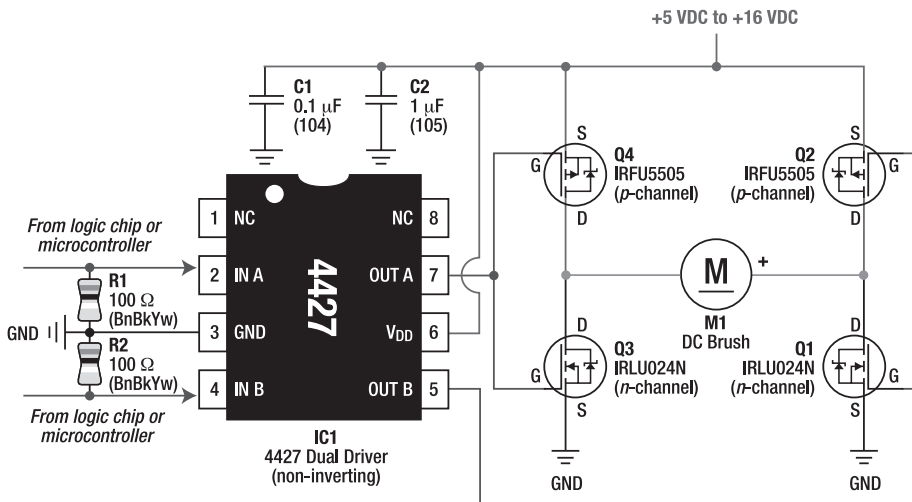
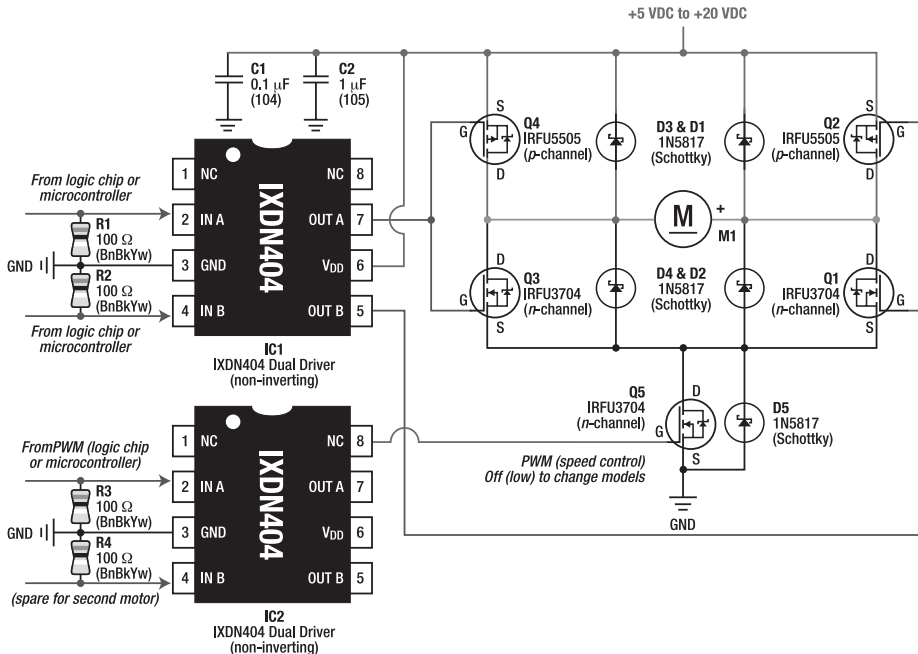

Figure 10-13. Schematic of a power MOSFET H-bridge interfaced via a 4427. This circuit has a shoot-through problem.
Figure 10-16. A discrete complementary power MOSFET H-bridge driven by one and a half IXDN404 driver interface chips and five transistors
Just like the PNP transistors in the bipolar H-bridge, the high-side (*p*-channel) transistors in the power MOSFET H-bridge must be brought up to the positive power voltage to be turned off. Just like with a bipolar H-bridge, you can use an open-collector chip, NPN bipolar transistors, or *n*-channel MOSFETs to drive the high-side gates of the MOSFET H-bridge from logic-level voltages. However, I prefer the 4427 chip for this purpose (see Figure 10-13).
There's a flaw in the circuit in Figure 10-13. Because both a high-side (*p*-channel) gate and a low-side (*n*-channel) gate are driven by a single signal voltage from the 4427, there's a short period of time that the *p*-channel and *n*-channel transistors are active at the same time.
The shoot-through problem isn't the kiss of death. In practice, connecting the gates of an *n*-channel and *p*-channel MOSFET usually functions adequately, despite brief moments of shoot-through. However, if the motor state is changed often (such as with PWM or a robot that changes directions a lot), use a design such as Figure 10-15 or Figure 10-16 to avoid shoot-through.
Figure 10-16 is an improved version of Figure 10-13, in that shoot-through can be completely avoided. The new circuit supports all four motor modes, like Figure 10-15, while requiring one less pin and avoiding short-circuits (if you avoid shoot-through). Best of all, this new circuit is pulse-width modulation (PWM)-compatible for speed control. This is all accomplished by adding a fifth MOSFET (labeled Q5) to control the connection to ground.
You may also note that I made a couple of other changes from the original Figure 10-13 circuit:
- Switched Q1 and Q3 from an IRLU024N to an IRFU3704 for higher voltage rating and lower resistance (thus this circuit actually performs better than the original Figure 10-13, even with the added resistance of Q5); also, IRFU3704 turns on at a lower voltage, meaning it performs better than the IRLU024N when driven from a logic-level (5 V) output